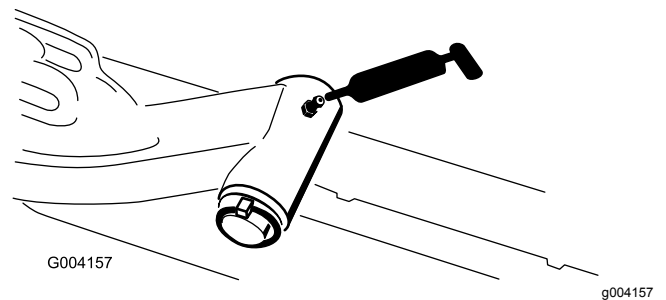

Figure 79
- Lift-arm-pivot shaft (1 each) (Figure 79)